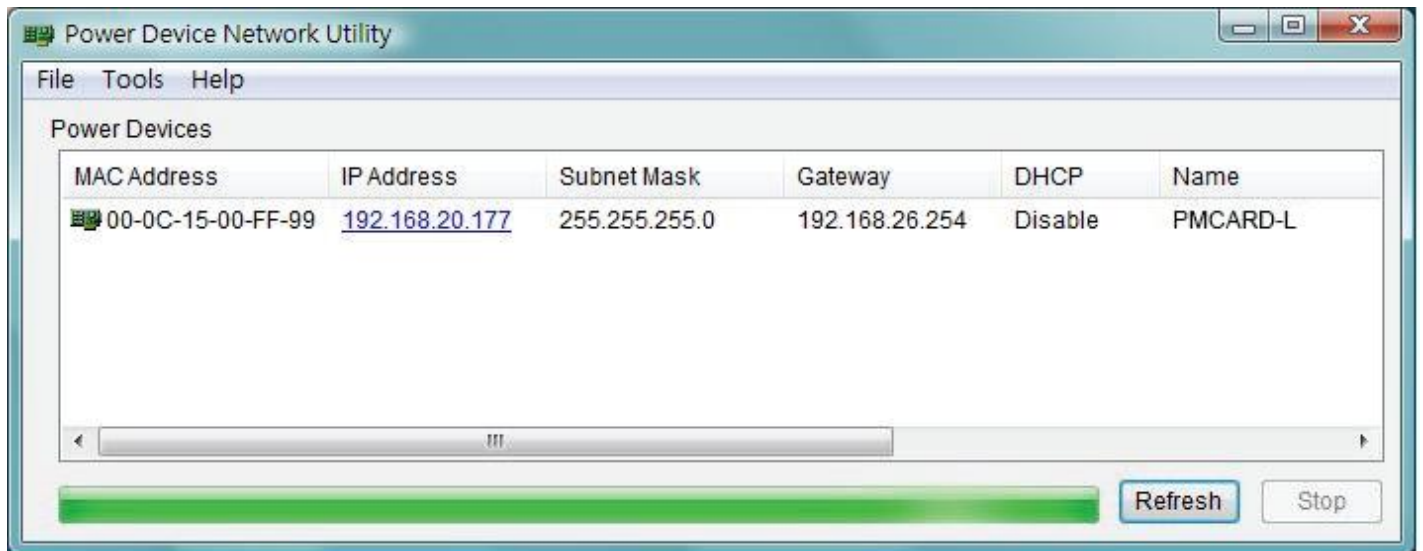

Figure 1. The main window of the “Power Device Network Utility” program.
3. The main window of the Power Device Network Utility program is shown in Figure 1. The configuration tool will display all Cyber Energy Power Management Card devices present on the local network subnet. The "Refresh" button is used to search the local network subnet again.